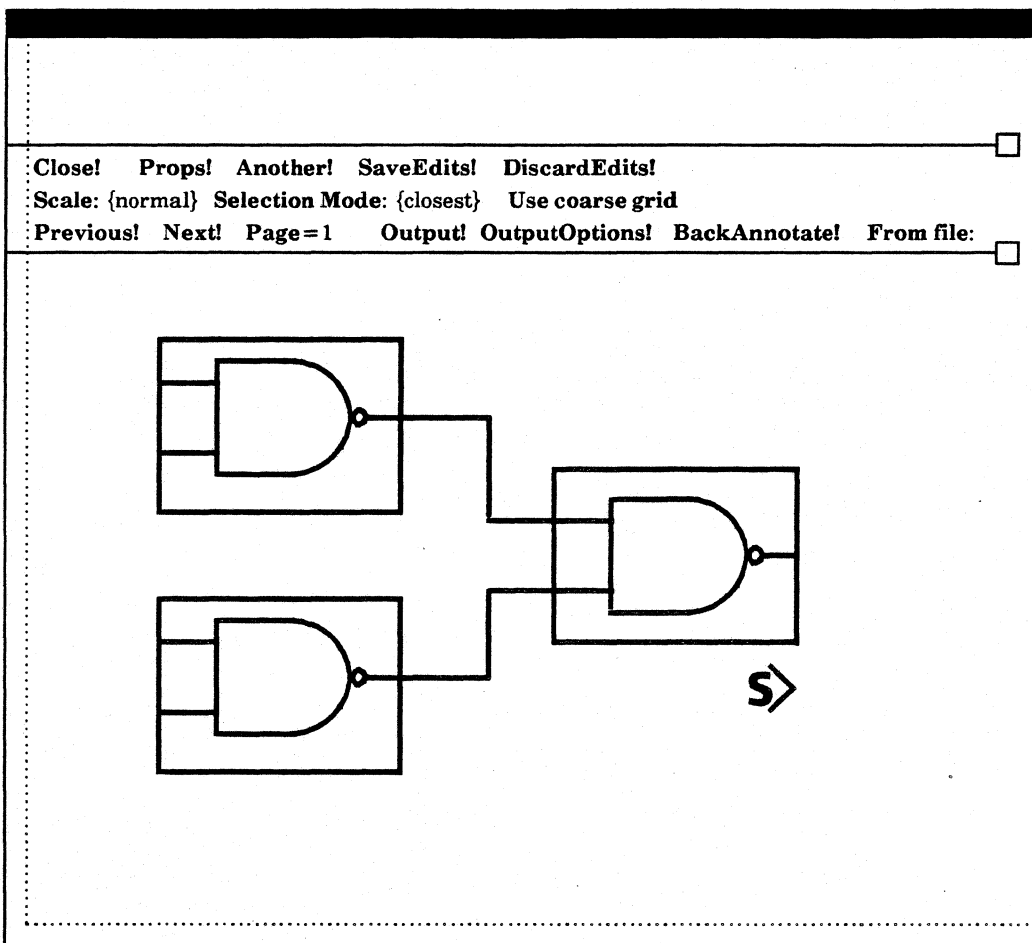

Figure 2.37
- 2) Point the cursor at any object in the cluster, and press the left mouse button twice without moving the cursor (figure 2.37).